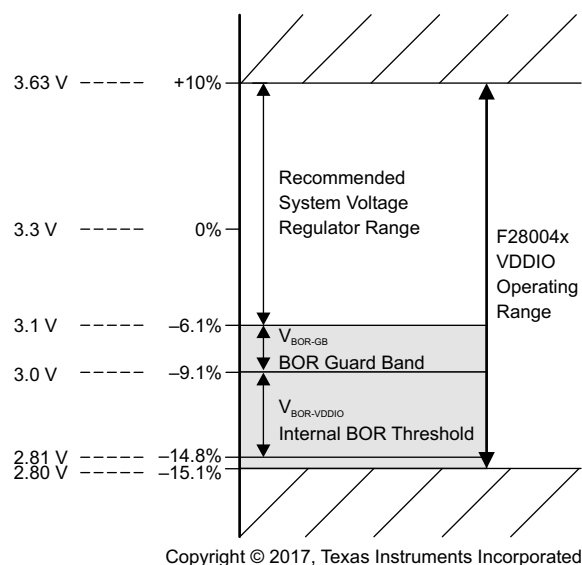

图 7-1. Supply Voltages
- (1) Operation above T_J = 105°C for extended duration will reduce the lifetime of the device. See Calculating Useful Lifetimes of Embedded Processors for more information.
- (2) The VDDIO BOR voltage (V_{BOR-VDDIO(MAX)}) in Electrical Characteristics determines the lower voltage bound for device operation. TI recommends that system designers budget an additional guard band (V_{BOR-GB}) as shown in Figure 7-1.
- (3) Internal BOR is enabled by default.
- (4) Supply ramp rate faster than this can trigger the on-chip ESD protection.
- (5) TI recommends V_{BOR-GB} to avoid BOR resets due to normal supply noise or load-transient events on the 3.3-V VDDIO system regulator. Good system regulator design and decoupling capacitance (following the system regulator specifications) are important to prevent activation of the BOR during normal device operation. The value of V_{BOR-GB} is a system-level design consideration; the voltage listed here is typical for many applications.